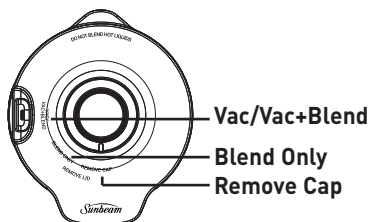

Figure 6
2. Turn the Seal Selector (cap) (Figure 6) on the Jug Lid to the appropriate selection: